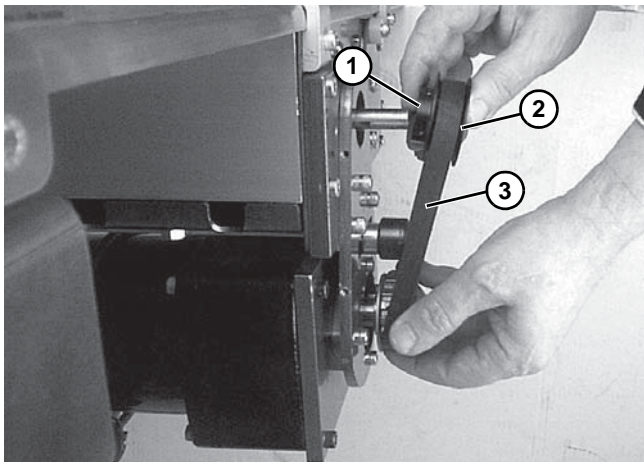

Figure 39
If the timing belt does not slide over the pulley flange, loosen the driven pulley set screws (Figure 39, item 1) and remove the pulley (Figure 39, item 2) with the belt (Figure 39, item 3).